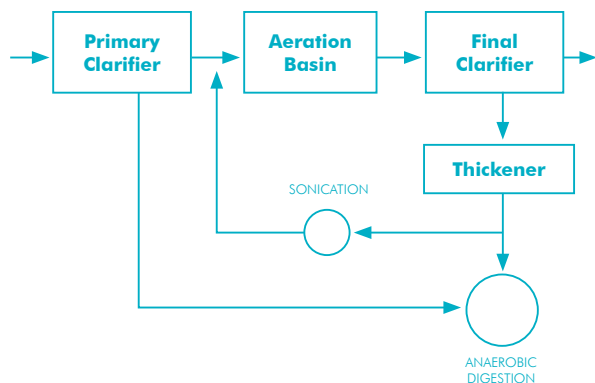

FIGURE 1
- ◆ 50% of the total TWAS flow were treated with 1 ULTRAWAVES US unit 5 kW, operating 24 hours per day and feed in denitrification basin (Fig. 1)